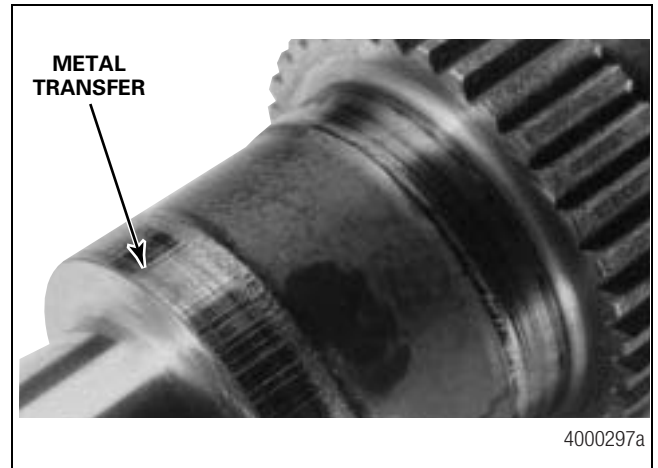

Figure 5.10
- Deep gouges or metal transfer along the input shaft journals. Figure 5.10.